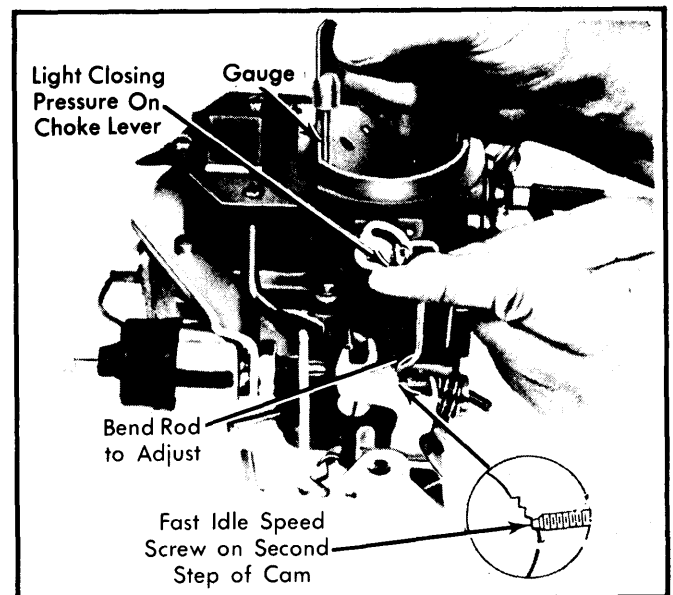

Fig. 7 Adjusting Fast Idle Cam Position
1) On American Motors models, remove choke coil cover retaining screws. Rotate choke coil cover 90° in the "Rich" direction. Install and tighten 1 slot-type retaining screw. On all models, place fast idle speed screw on 2nd step of fast idle cam. See Fig. 7.